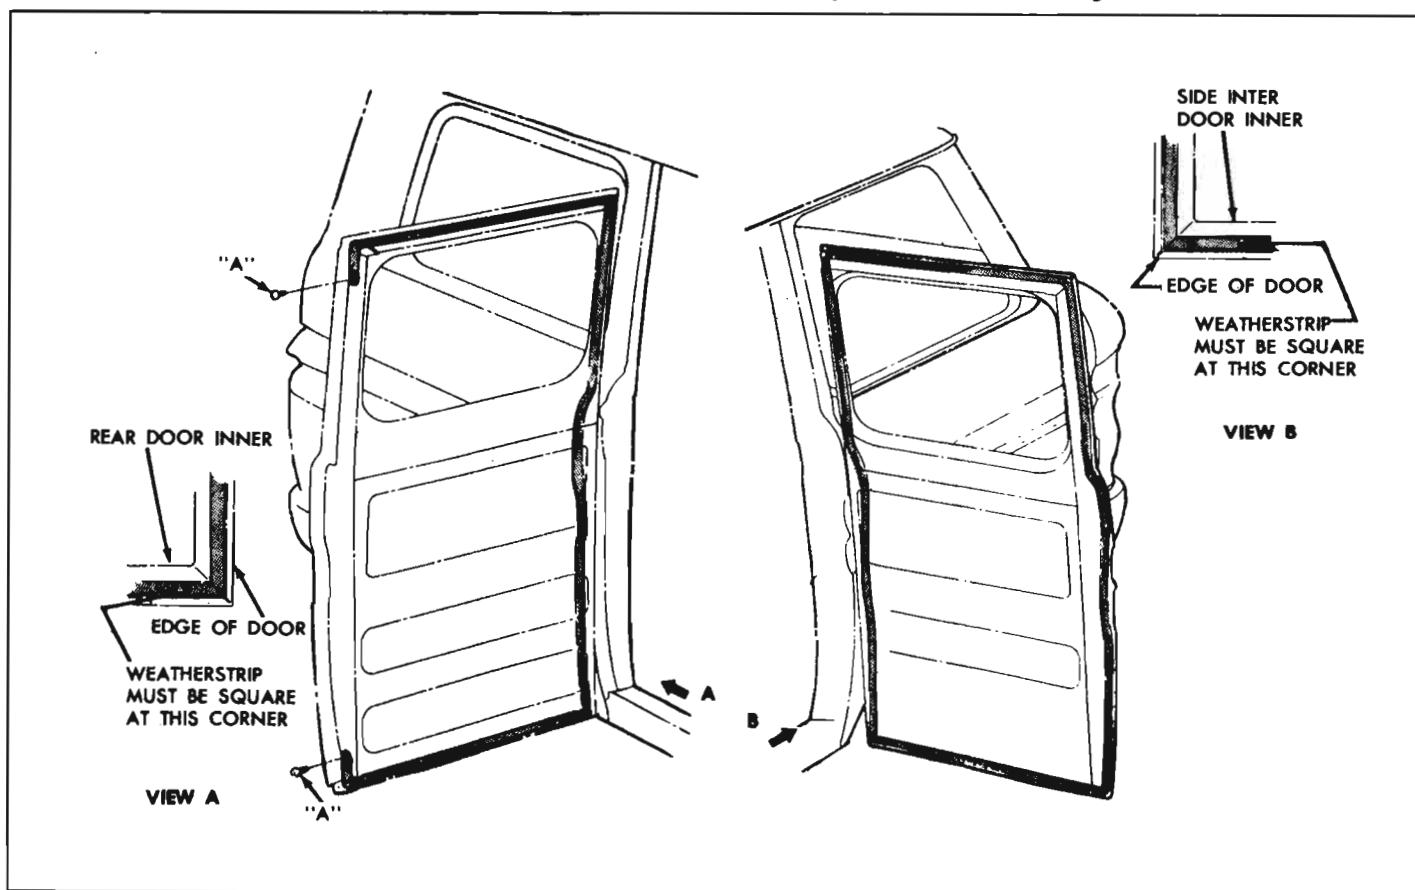

Fig. 10-63a—Side Double Door Weatherstrip Installation
Side double door sealing incorporates weatherstrip sealing three fourths around the side rear door, and completely around the side intermediate door as shown in Figure 10-63a.
The weatherstrip material is closed cell sponge and is cemented and is retained at the corners on the side rear door (fig. 10-63a) by screws and clips.
1. Open doors and on the side rear door remove retaining screws at "A," (fig. 10-63a).
3. Apply adhesive to door. Apply weatherstrip as shown in Figure 10-63a.
NOTE: Weatherstrip must be square at corners A and B (fig. 10-63a).
4. Install weatherstrip retainer screws at door edge as shown in Figure 10-63a. Allow ample time for drying as indicated on the adhesive label.